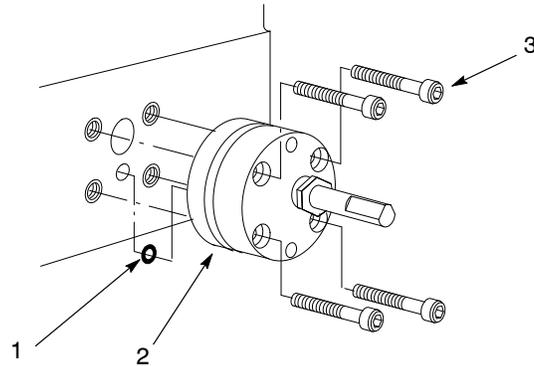

Figure 5-7 Replacing a pump
8. See Figure 5-7. Remove the pump screws (3) and then remove the pump (2) and O-rings (1).